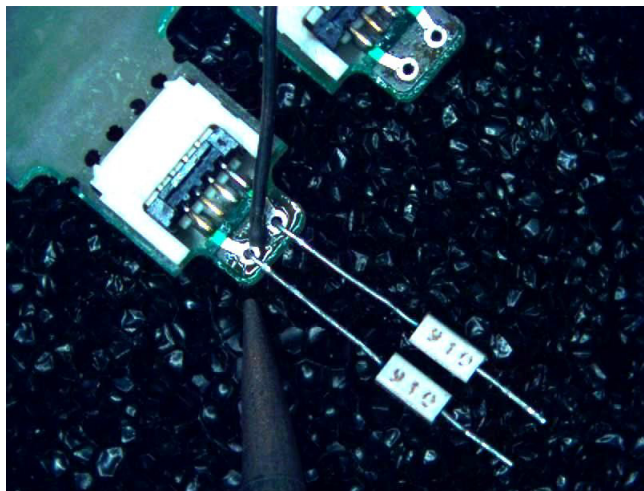
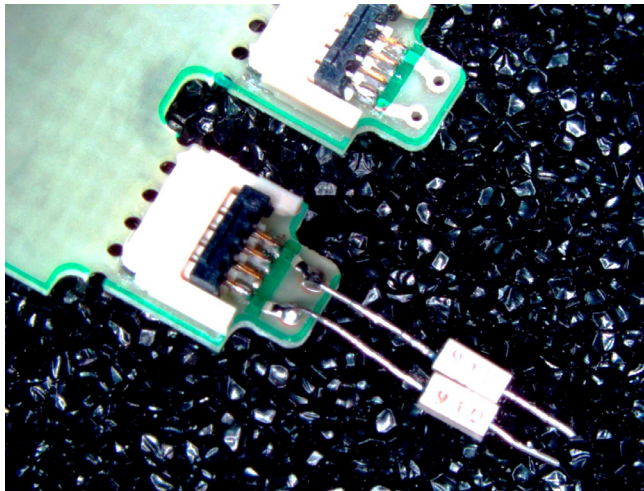

Figure 101 Soldering the Resistors
Figure 102 Solder Fillets Surrounding the Resistor Lead Wires
- 7 Momentarily apply the soldering iron tip to the resistor lead wires as shown in **Figure 101**. Touch the solder to the heated lead wire near the trace hole. A good fillet should form around the lead wire, thus sealing the trace hole. **Figure 102** shows good solder fillets surrounding the resistor lead wires. After soldering, clean board of any excess flux. On the ZIF Tip's opposite side, trim any excess lead wire protruding from the board.